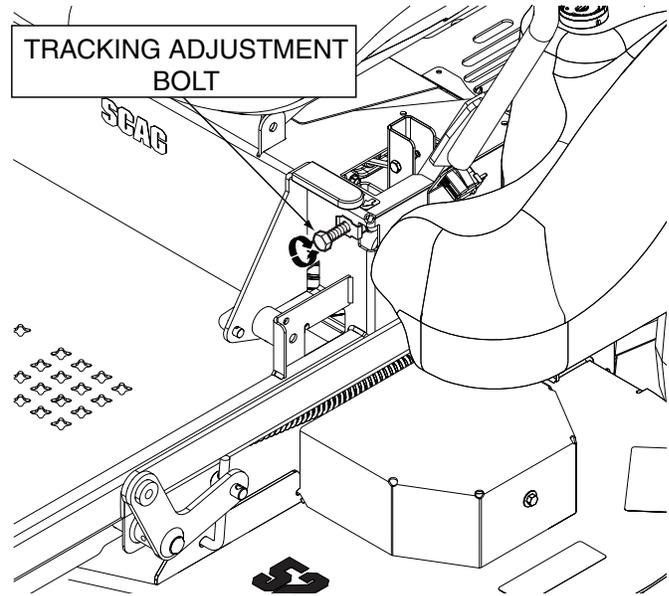

Figure 6-3. Tracking Adjustment Bolt
- A. Stop the machine and place the steering control levers in the neutral position. Turn the tracking adjustment bolt for the LH pump inward (clockwise). This will cause the control rod to stroke the LH pump less, slowing down the LH wheel. See Figure 6-3.
- A. Stop the machine and place the steering control levers in the neutral position. Turn the tracking adjustment bolt for the RH pump inward (clockwise). This will cause the control rod to stroke the RH pump less, slowing down the RH wheel. See Figure 6-3.